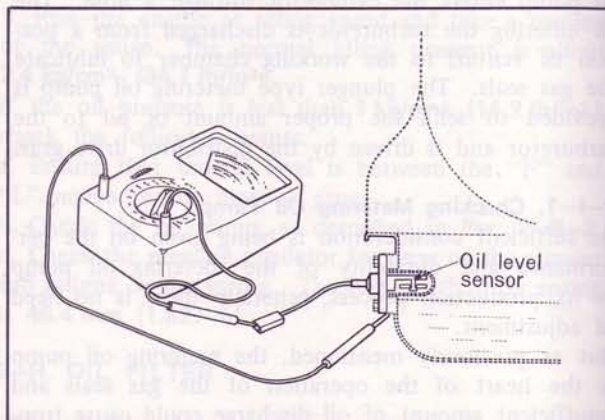

Fig. 2-22 Checking oil level sensor
1. Connect the circuit tester to the level sensor as shown in Fig. 2-22, and check the continuity by moving the float up and down. When the float is on the upper side, the circuit tester should not show any continuity, and when moved to the lower side, it should show a continuity of the circuit. If it is found not to be so, replace the oil level sensor.
- b. Connect the circuit tester to the level sensor as shown in Fig. 2-22.